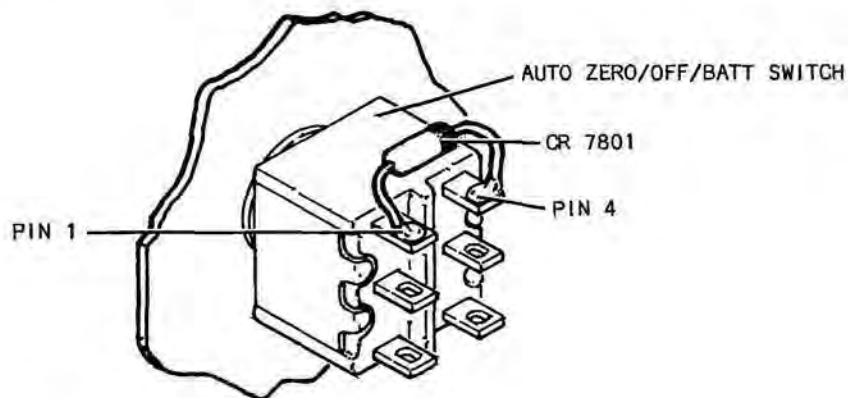

Figure 6-18 AUTO ZERO/OFF/BATT Switch Installation
T. AUTO ZERO/OFF/BATT Switch (36) by attaching:
1. Lock washer (37) and switch (36) at rear of panel (72); flat washer (38) and hex nut (39) at front of panel (72).
2. Ensure that switch is installed as shown in Figure 6-18 before soldering wires.